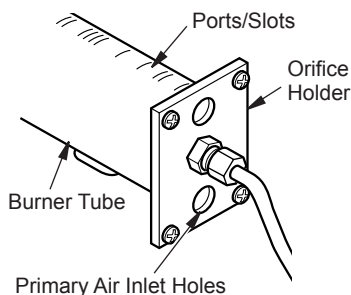

Figure 35 - Orifice Holder On Outlet Burner Tube
2. Inspect burner, pilot, and primary air inlet holes on orifice holder for dust and dirt (see Figure 35).